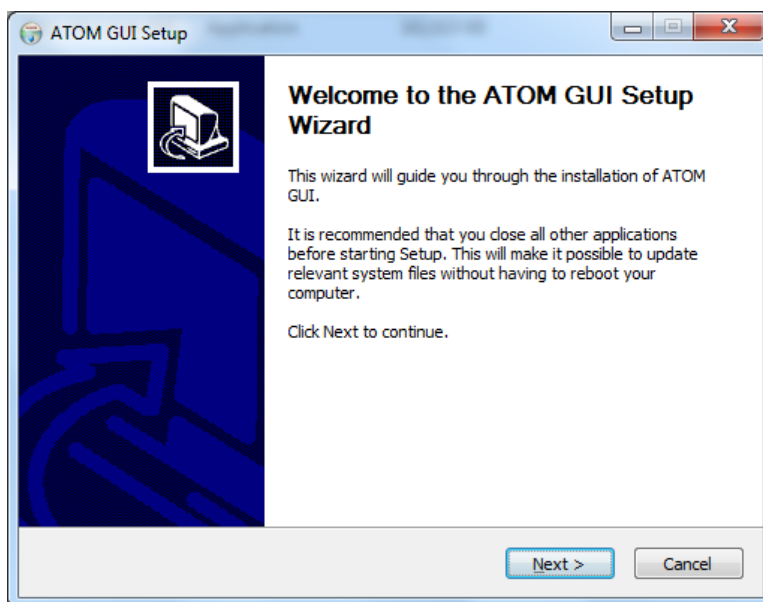

Figure 3.9
2. On the start screen that comes up, click **Next** (Figure 3.9)